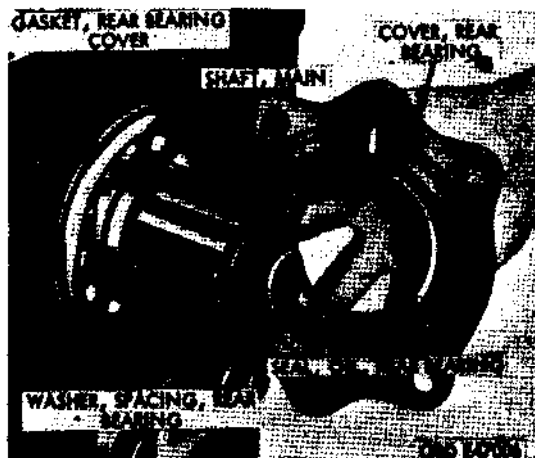

Figure 250. Removing rear bearing cover
- (b) Remove four cap screws and lock washers and lift off rear bearing cover (fig. 250). Discard gasket